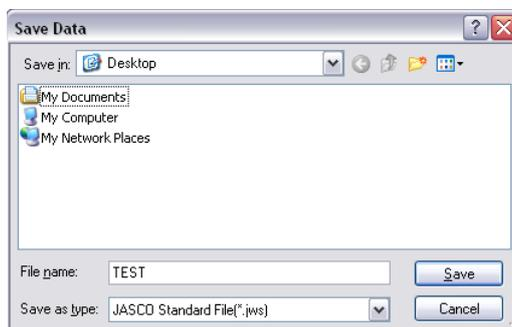

Figure 6.8 [Save Data] dialog box
- (2) Select a location to save the spectrum by clicking the arrow on the extreme right in the [Save in] box (in Figure. 6.8 “Desktop” is selected).
- (3) Input a filename in the [Filename] text box. The extension (the letters appearing after “.”) need not be entered. The output file is saved as a .jws format file.
- (4) Clicking the <OK> button saves the spectrum onto disk (the filename in the example is “TEST”).